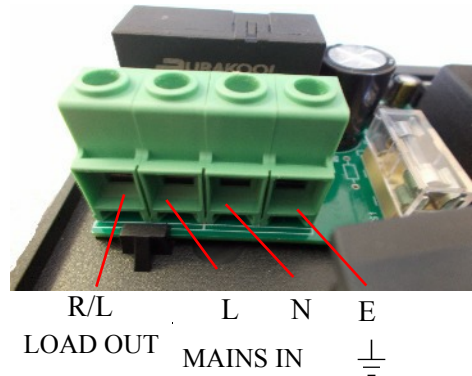

Figure 3 Wiring Diagram
3) The timer will require a fused double pole switch for the mains input. Wire the unit as shown in Figure 3 using appropriately rated and approved cable conforming to the relevant regional standards. The meter can either be connected to the supply via a cable fed through the hole at the bottom left hand side of the wall bracket or through the back of the meter. Ensure the cables are secured underneath the cable clamps.